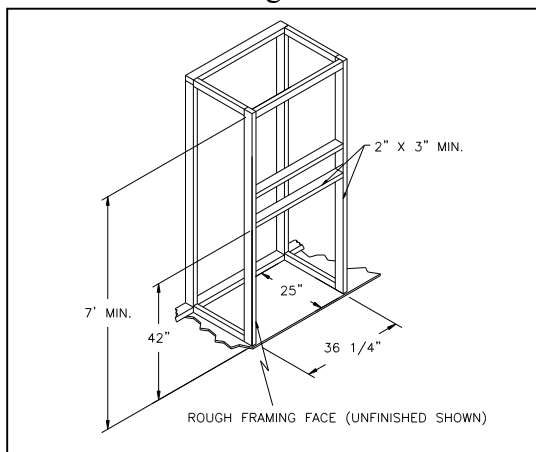

Figure 9
- C. Frame the fireplace with vertical studs at the sides of the fireplace running from floor to ceiling (see figure 9). If combustible facing is to be used, position the studs back, from the front edge of the fireplace, a space the thickness of the facing material so that the facing can be installed flush with the fireplace facing. Frame headers between the vertical studs only as follows: